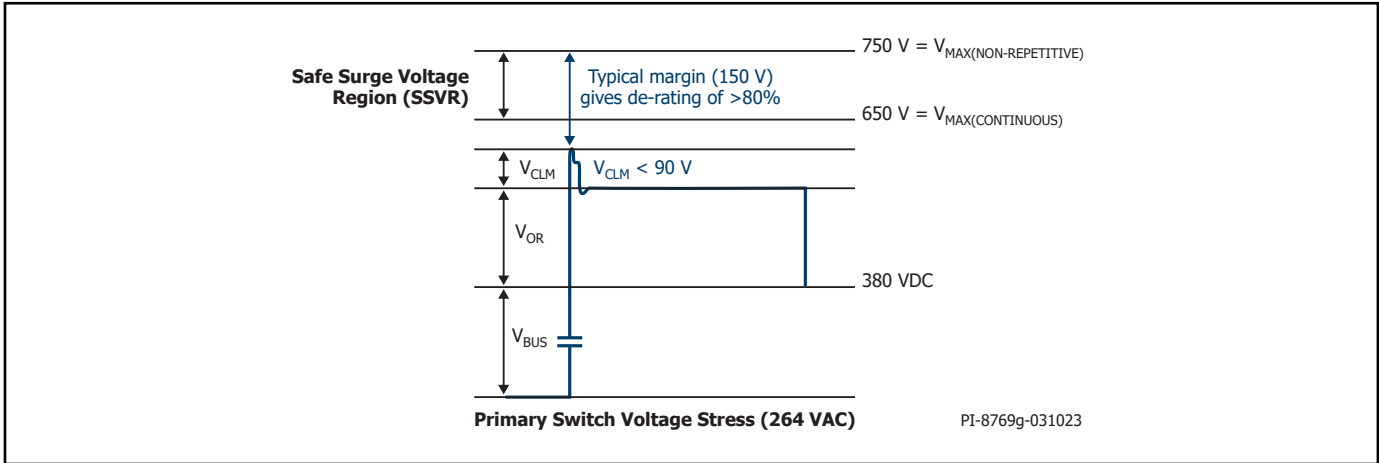
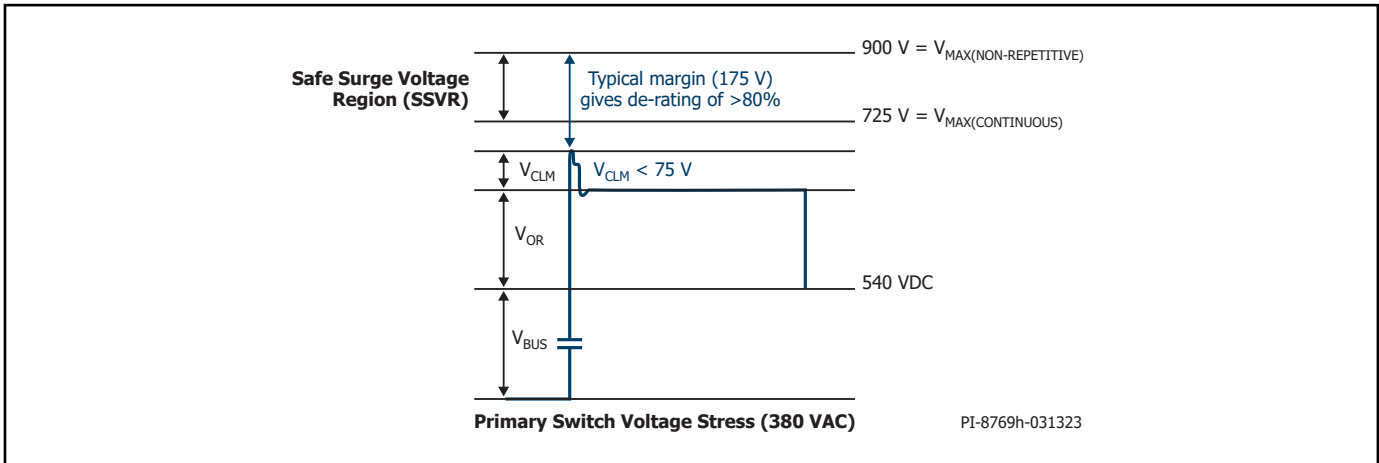

Figure 22. Peak Drain Voltage for 264 VAC Input Voltage using 750 V PowiGaN.
Figure 23. Peak Drain Voltage for 380 VAC Input Voltage using 900 V PowiGaN.
For a flyback converter configuration, typical voltage waveform at the DRAIN pin of the IC is shown in Figure 22 for 750 V device and Figure 23 for 900 V device.
will add a spike at the instant of turn-OFF of the primary switch. V_{CLM} in Figure 22 and Figure 23 is the combined clamp voltage including the spike. The peak drain voltage of the primary switch is the total of V_{BUS} , V_{OR} and V_{CLM} .
- Please see Figure 23.